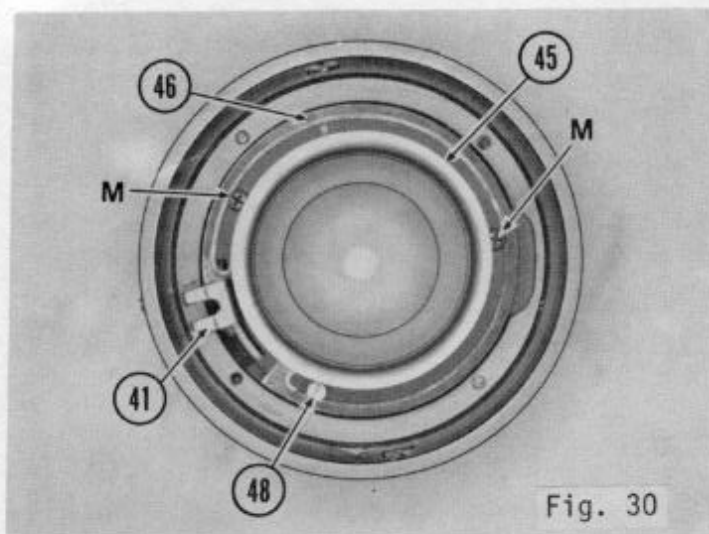

Fig. 30
- 4.2.6 Hold Diaphragm Lever clockwise against stop (which is Diaphragm Limit Ring 46), and measure the aperture size. A rod of  $4.6 \pm 0.3\text{mm}$  should just pass through the hole (a  $3/16"$  drill bit is nominally  $4.76\text{mm}$ , which is within tolerance). (Figs. 30 and 31)
- 4.2.7 If aperture size is incorrect loosen Post Screw (48) and two screws (M), which hold the Diaphragm Limit Ring (46) in position. Rotate limit ring clockwise or counterclockwise as required, to achieve correct aperture size. (Fig. 30)